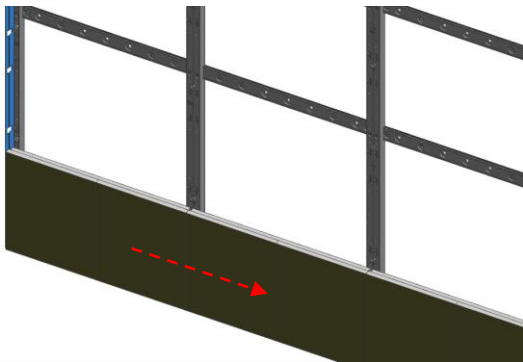

Fig.4 Install 1st Cabinet floor
- ⑤ Install the 1st floor cabinets using align jig. (Fig.4)